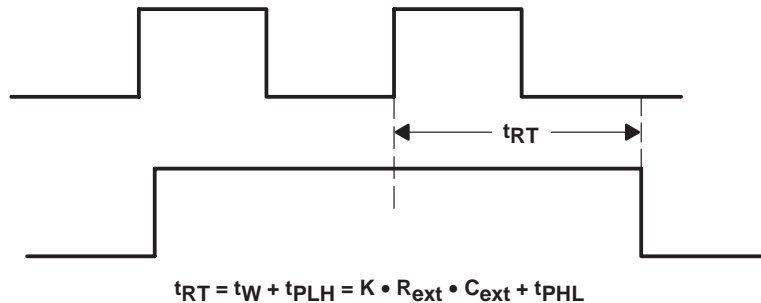

Figure 3. Retrigger Pulse-Duration Calculation
7. The retrigger pulse duration is calculated as shown in Figure 3.